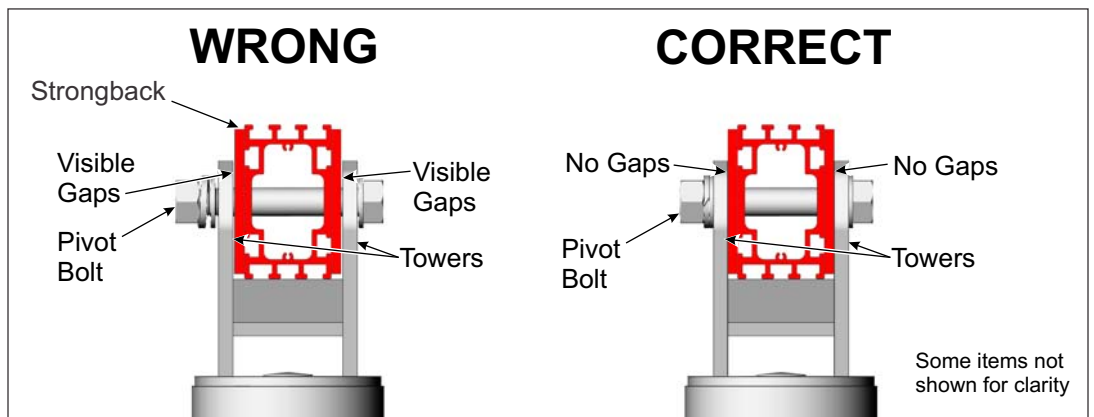

Figure 2-4: Tighten and Torque the Pivot Bolt
H. Return and tighten the Pivot Bolt. The Pivot Bolt cannot be left loose - the Mounting Sleeve Vertical Towers must be firmly clamped to the sides of the Strongback eliminating any gaps between the Vertical Towers and the Strongback. **Torque to 125-150 ft.-lbs.** (See Figure 2-4)